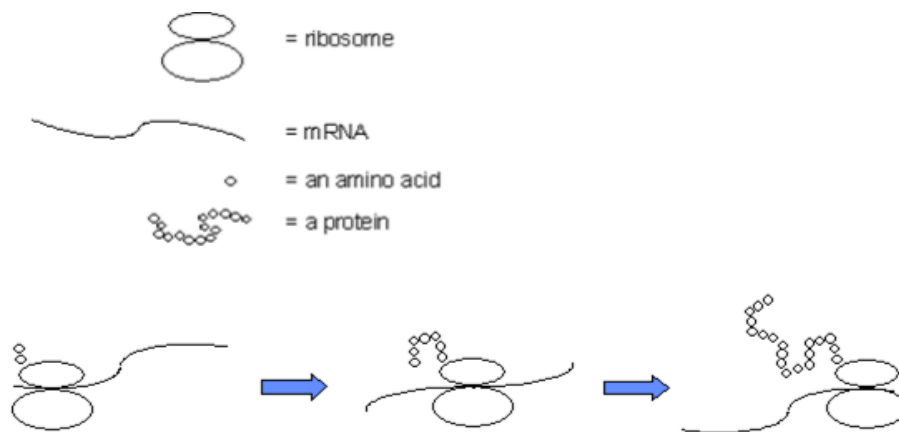

Figure 7 – Translation
The ribosome detaches each amino acid from its tRNA and links the amino acids together, forming a *polypeptide*. The bond between the amino group of one amino acid and the carboxyl group of another amino acid is called a *peptide bond*. Just as in DNA synthesis, protein synthesis has directionality: proteins are synthesized from the amino (N) to carboxyl (C) terminus. The chemical properties of the amino acids in the polypeptide cause it to fold into a functional *protein*. Figure 7 is a diagram of translation.